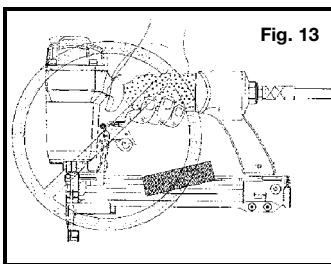

Fig. 13
- Do not load fasteners** with trigger or safety depressed, to prevent unintentional firing of a fastener. (Fig. 13)